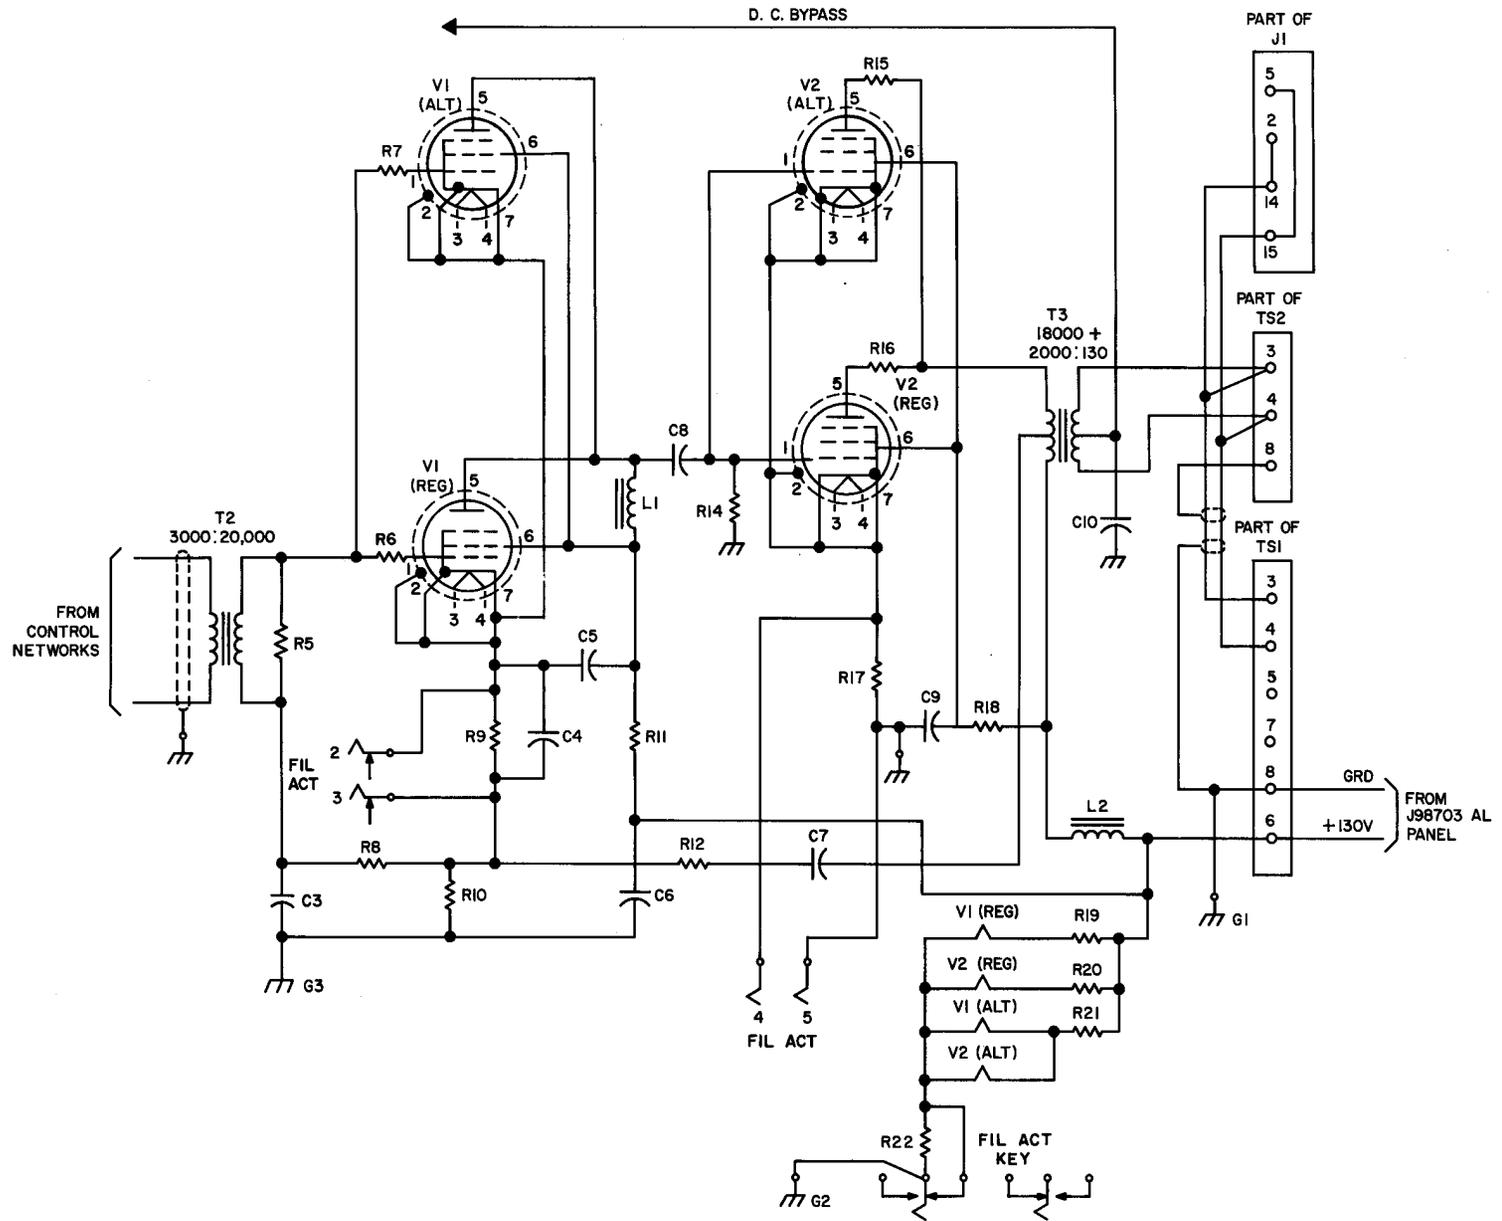

Fig. 3 — J98703BE Adjustable Deviation Equalizer,
**3.05** The amplifier portion of the adjustable deviation equalizer contains two stages of amplification and a feedback network. A schematic diagram of the amplifier is shown in Fig. 3. Transformer T2 matches the impedance of the 3000-ohm control networks to the 20,000-ohm resistance of resistor R5 and provides a voltage step-up. Impedance coupling is used between the amplifier stages. The coupling circuit consists of inductor L1, resistor R14, and coupling capacitor C8. The inductor is resonant with the tube and circuit capacitances at the lower end of the transmission range. Transformer T3 couples the output of the amplifier to pins 3 and 4 of termi-